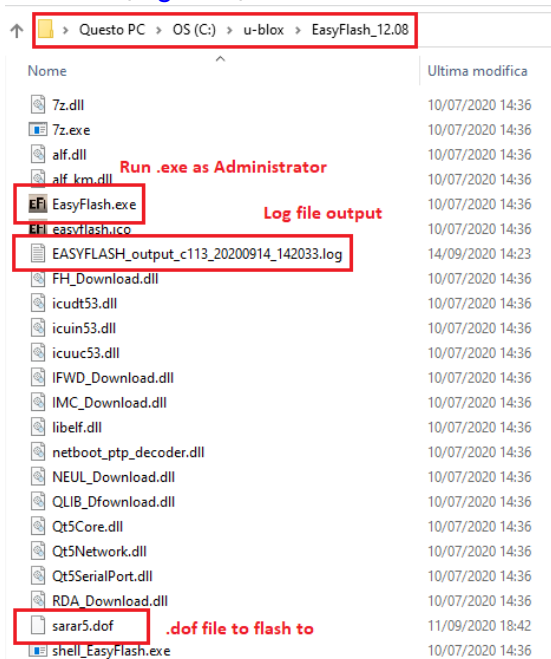

Figure 5: EasyFlash directory and file details
1. Copy the firmware flash file (.dof format) into the same directory as where EasyFlash.exe is installed (Figure 5).